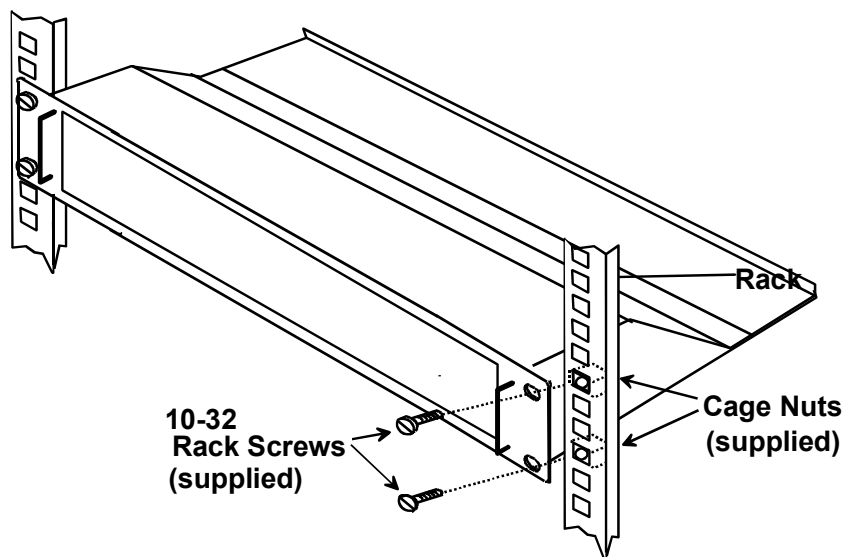

Figure 9- Mount ST-C5RCK-12 Extender Module Tray to a rack
2. Connect the AC adapter power connectors to the 9VDC ports on the Remote and Local Units. (AC adapter shown in Fig. 9)